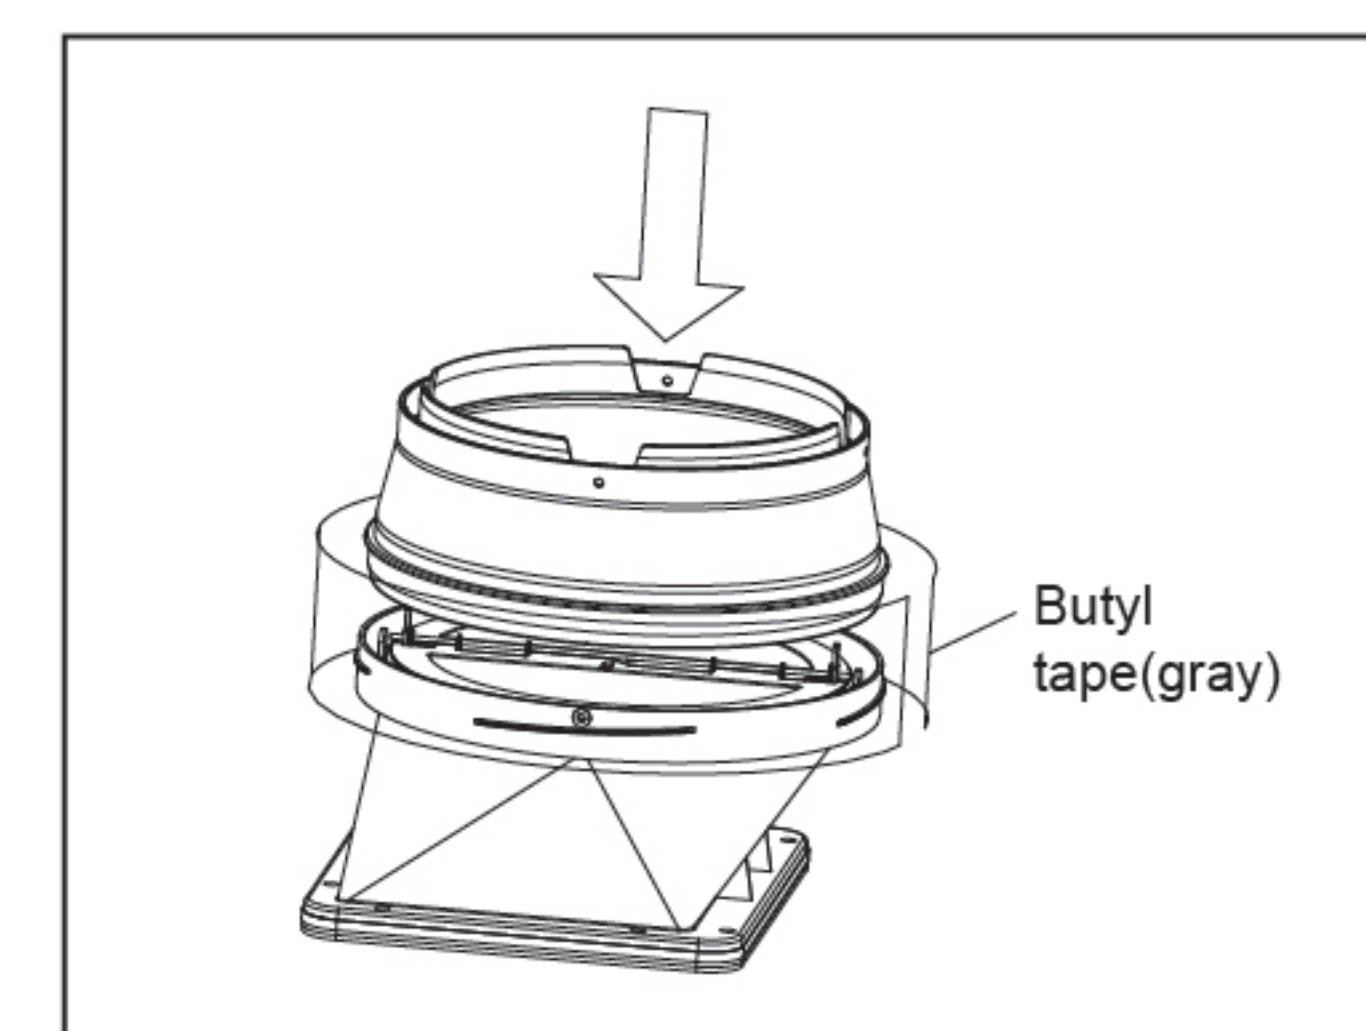

fig10
- Remove the outlet housing connecting rings from the plastic packaging bag of the smoke tube, put one end of the large diameter on the outlet housing, and fix and seal the outlet housing and the outlet housing connecting rings with butyl tapes. (fig10)